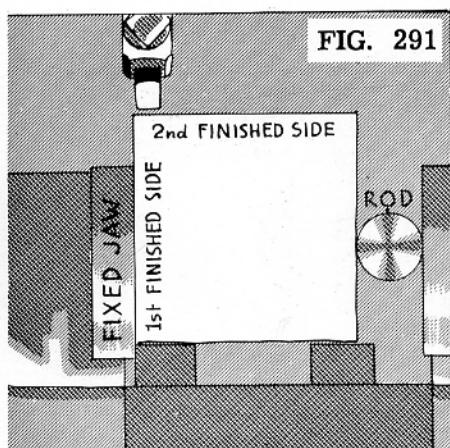
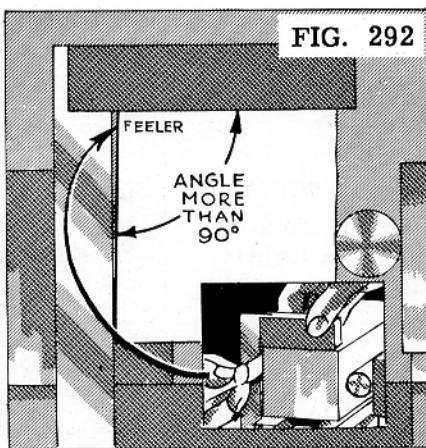

FIG. 291
FIG. 292
A test with a steel square shows that the surface just planed is not square with the first surface which now rests against the fixed jaw of the vise (Fig. 292).
- Remove the burrs produced by the tool. Clean the surfaces of the work. Finally, check their squareness with a steel square by placing its beam on the surface just finished and bringing the blade to the adjacent side (Fig. 292).
- Place the work in the vise following the planing of the first side, and take a light cut on the second side (Fig. 291). Test the work with a steel square (Fig. 292).
FOR ANGLES GREATER THAN 90° (FIG. 292).